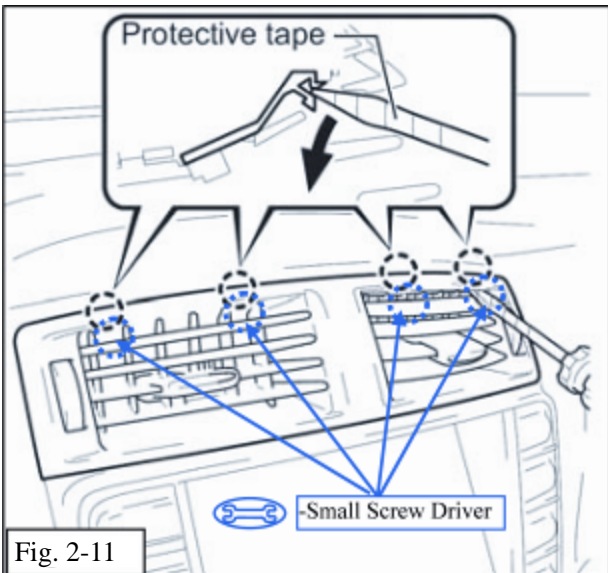

Fig. 2-11
- (f) Remove the upper vents trim piece. (Fig. 2-11)
-  (1) Disengage the 4 clips using a screwdriver with protective tape applied as shown. (Fig. 2-11)